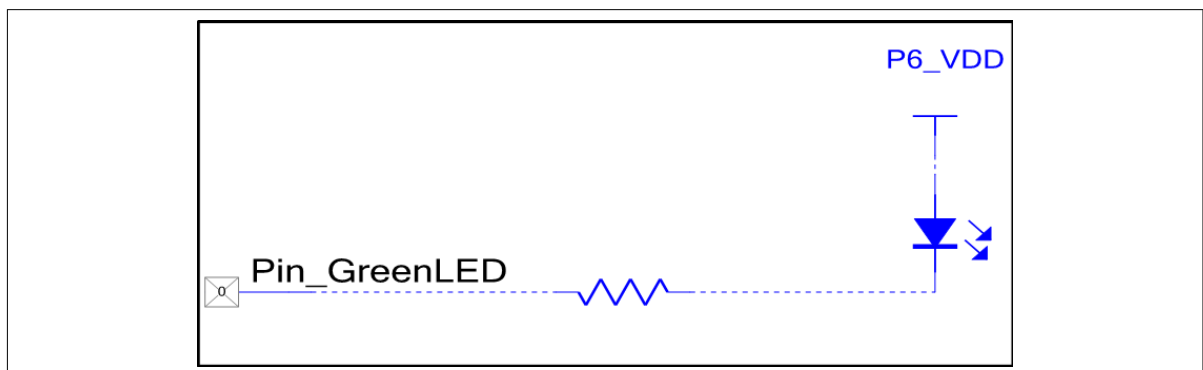

Figure 16 An output pin with off-chip components
- For a pin, if you enable **External terminal**, you can add external “off-chip” Components to a design. External Components on the schematic are included for descriptive purposes only; they have no effect on the generated code. Off-chip Components are optional, but can assist the hardware design team understanding how the design works. You can also add text boxes to a design with descriptions. Figure 16 shows how you could enhance the design for the LED. In this case, the off-chip components were configured with the **Instance_Name_Visible** option unchecked. The resistor was configured with the **Value** field left blank. The power terminal was configured with the **Supply_Name** set to P6_VDD